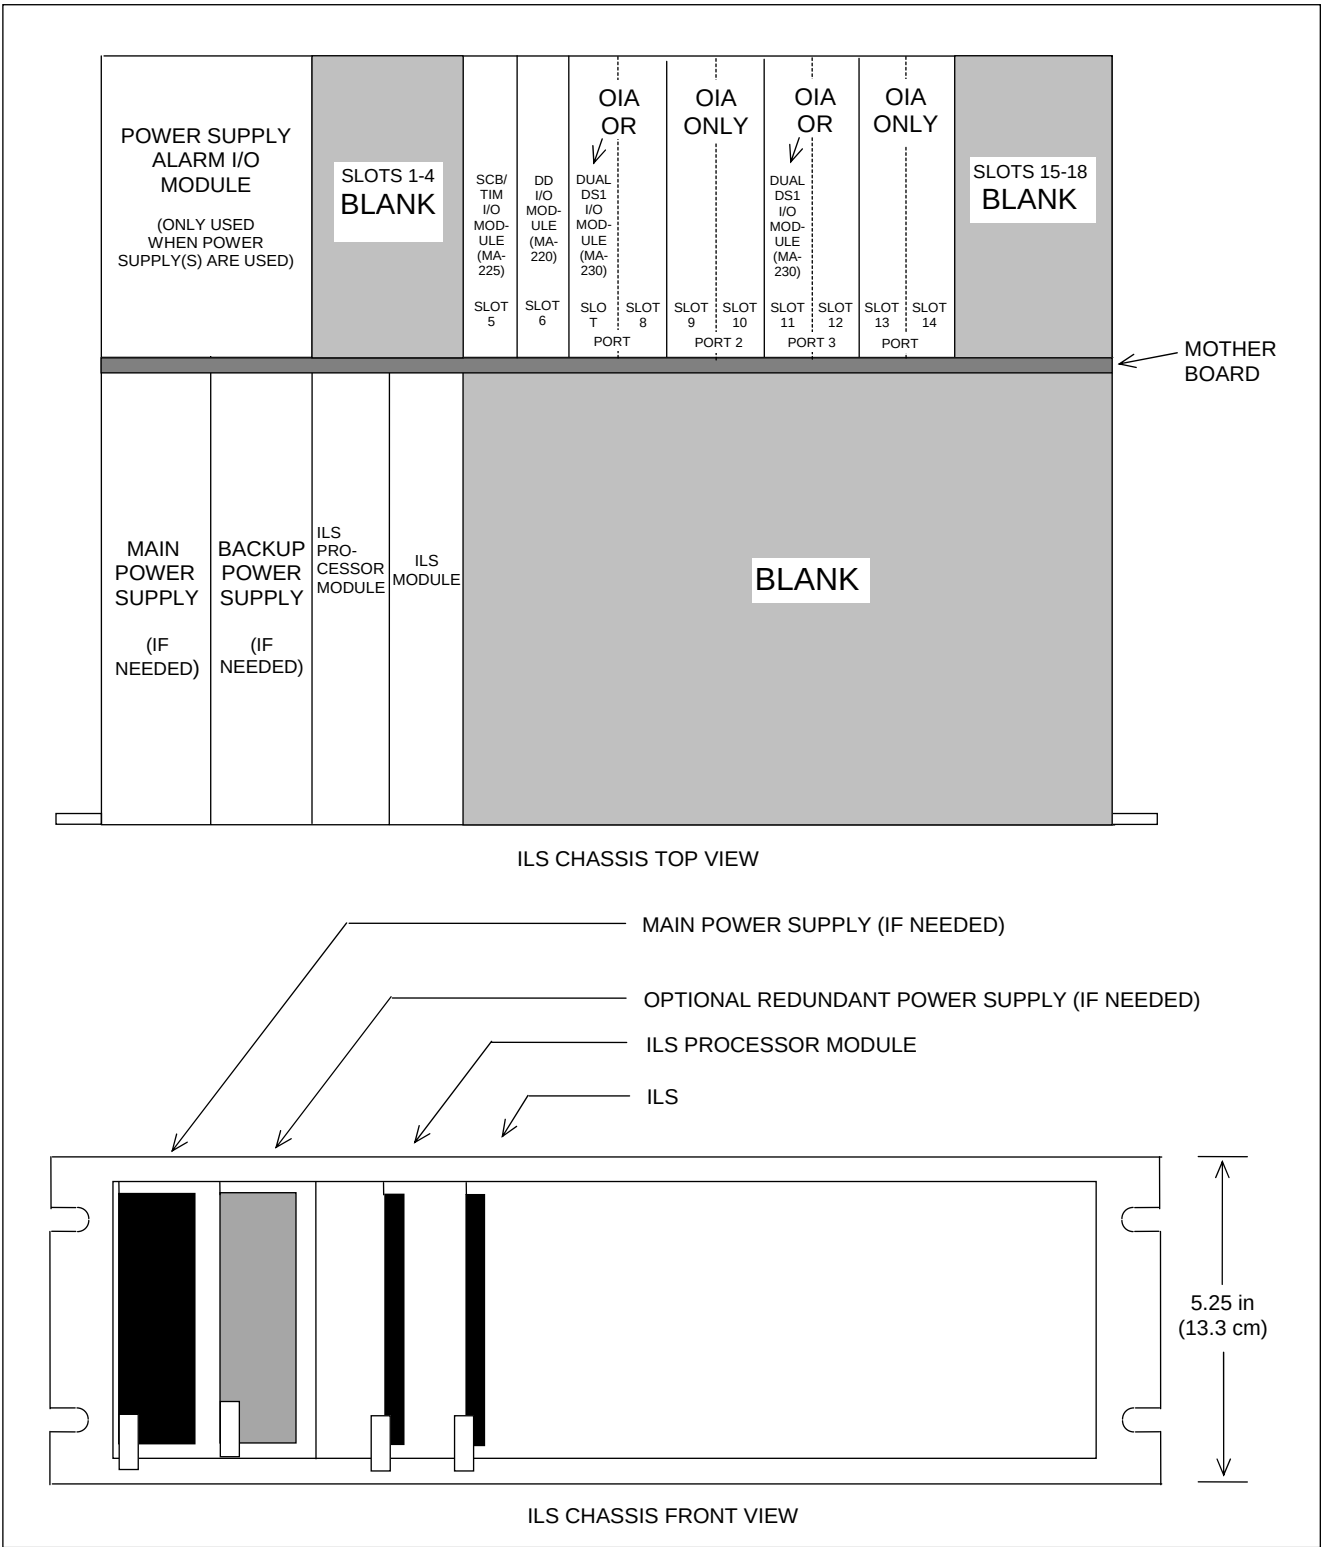

Figure 3-10. Front and top views of ILS chassis
The ILS Chassis is the enclosure for the IMUX 2000 Intelligent Line Switch. It has plug-in slots in the front for the main power supply, an optional redundant power supply, an ILS processor module and an ILS module. These are the only four modules that plug into the front of the ILS chassis. Plug-in slots at the rear accommodate the power supply alarm I/O module, and module adapters (MAs) and optical interface adapters (OIAs) as required. (See Figure 3-10.)
1. The main power supply (when used), optional redundant power supply (when used), ILS processor module and ILS module must be plugged into the locations shown in Figure 3-10.
2. At the rear of the chassis the Power Supply Alarm I/O module (when used) must be plugged into the location shown in Figure 3-10.
If used, the first power supply inserts into the optional main power supply slot, and if used, the redundant power supply inserts into the optional redundant power supply slot as shown in figure 3-10. In some applications, the ILS chassis may receive all of its main power and backup power from the power supply(s) mounted in the IMUX 2000 Multiplexer chassis or the IMUX 2000 expansion shelf. In this case both of these slots will be blank in the ILS chassis. The ILS chassis will receive all of its power from the IMUX 2000 Multiplexer chassis or expansion chassis via an auxiliary power cable. See Section 9 for more information.
The MA-220 is always plugged into slot 6 at the rear of the ILS/DACS chassis as shown in Figures 3-10 and 4-10.
The MA-225 is always plugged into slot 5 at the rear of the ILS chassis as shown in Figure 3-10.
The MA-230 can be plugged into slots 7 or 11 at the rear of the ILS/DACS chassis as shown in Figures 3-10 and 4-10.